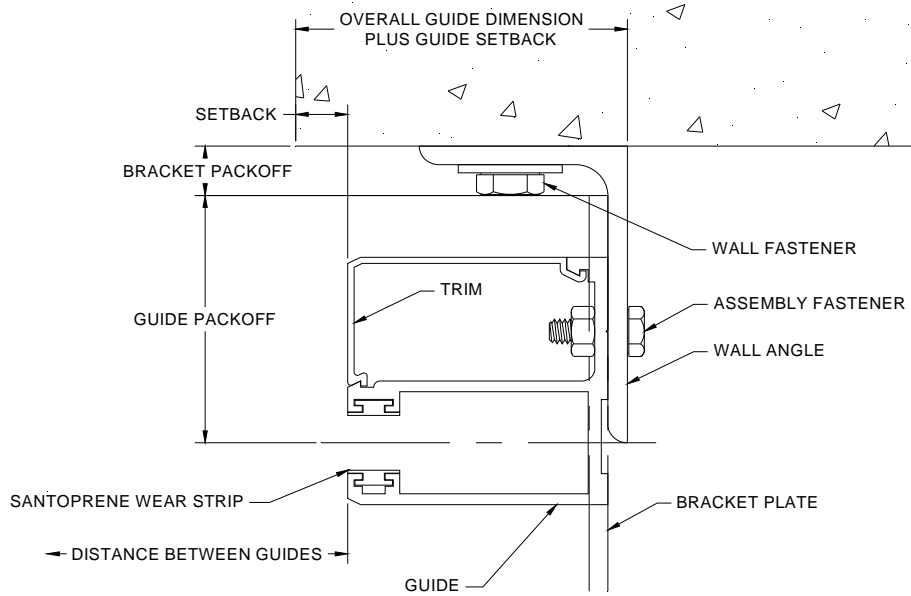

Figure 5.1 – Face of Wall “E” Guide
▪ **Face of Wall Units Mounting to Existing Wall Construction (Figures 5.1 - 5.2):**
2. Measure the distance from the opening/jamb to the heel of the wall angle (on "E" guides) or the toe of the wall angle (on "Z" guides). This distance is referred to as the "*Overall Guide Dimension plus Guide Setback*"; see **Figures 5.1** and **5.2**. See the job construction drawings for the guide setback and overall guide dimensions.